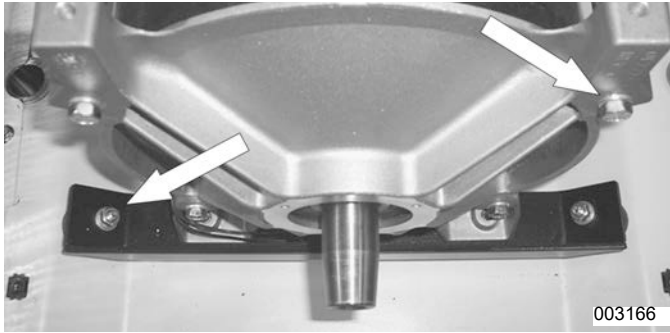

Figure 4-55.
24. **Rear Bearing Carrier Removal:** See Figure 4-55. Use a 13 mm socket to remove the two nuts from the alternator mounting bracket rubber mounts.